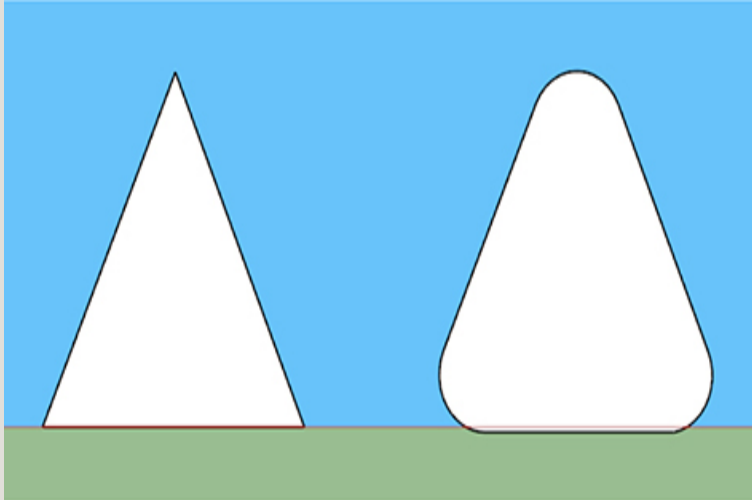

Figure 5-3 Round off sharp features.
- **Has rounded, not pointed, features** (Figure 5-3). The round printer nozzle can't make sharp corners.